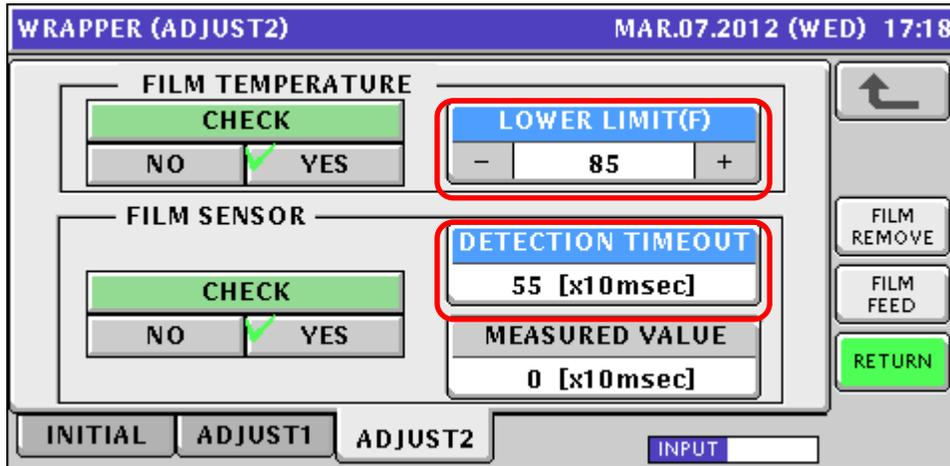

Figure 6.4.1. Film Temperature and "No Film" Sensor Timeout
- a. Refer to step 6.2 to enter the **Wrapper (Adjust2)** page. See Figure 6.4.1.